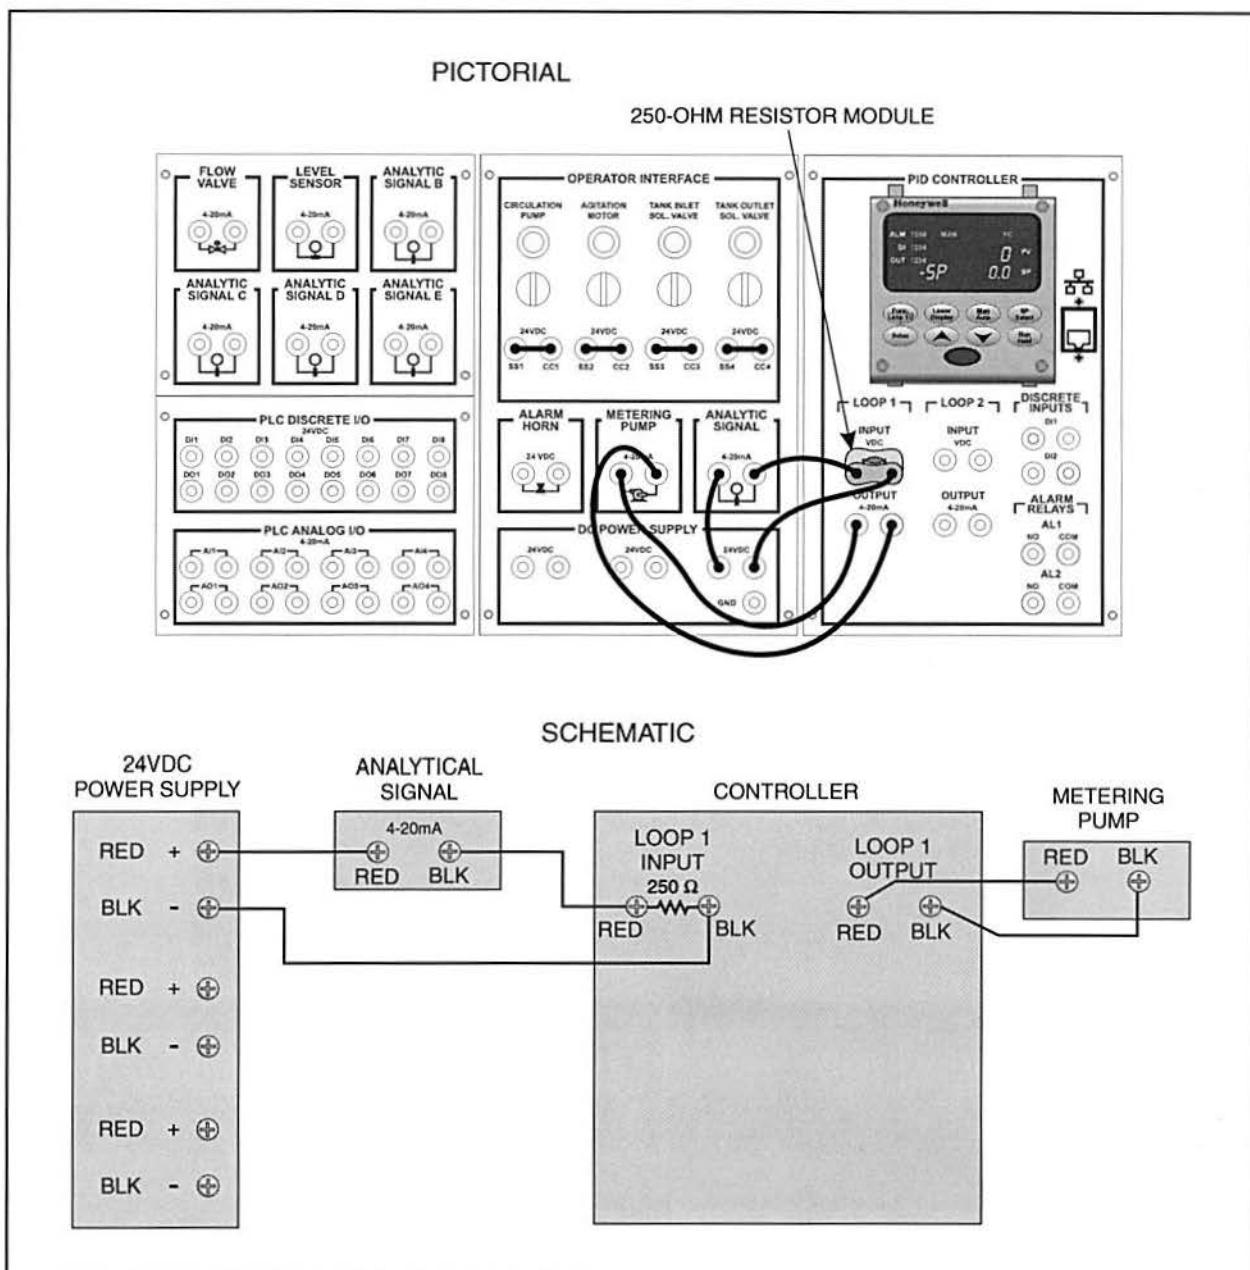

Figure 37. Circuit for Batch Control
□ 7. Connect the circuit shown in figure 37.
This will allow the controller to monitor the pH of the batch solution in the reactor tank and control the metering pump to add reagent to the batch until the pH is neutral (7 pH). Make sure to connect the 250-Ohm resistor module into the input of the controller, as shown in figure 37.